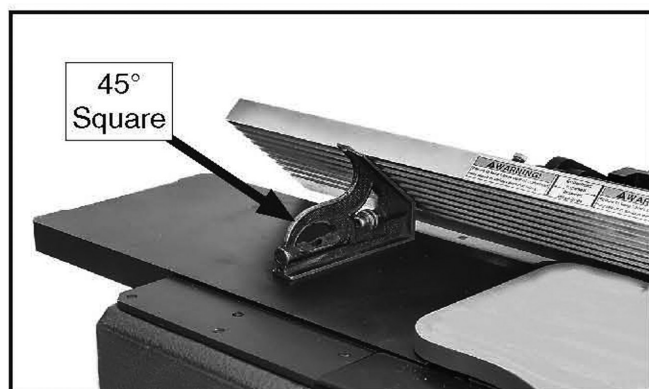

Figure 29. Checking 45° fence stop.
4. Use a 45° square to adjust fence to 45° position, as shown in **Figure 29**.